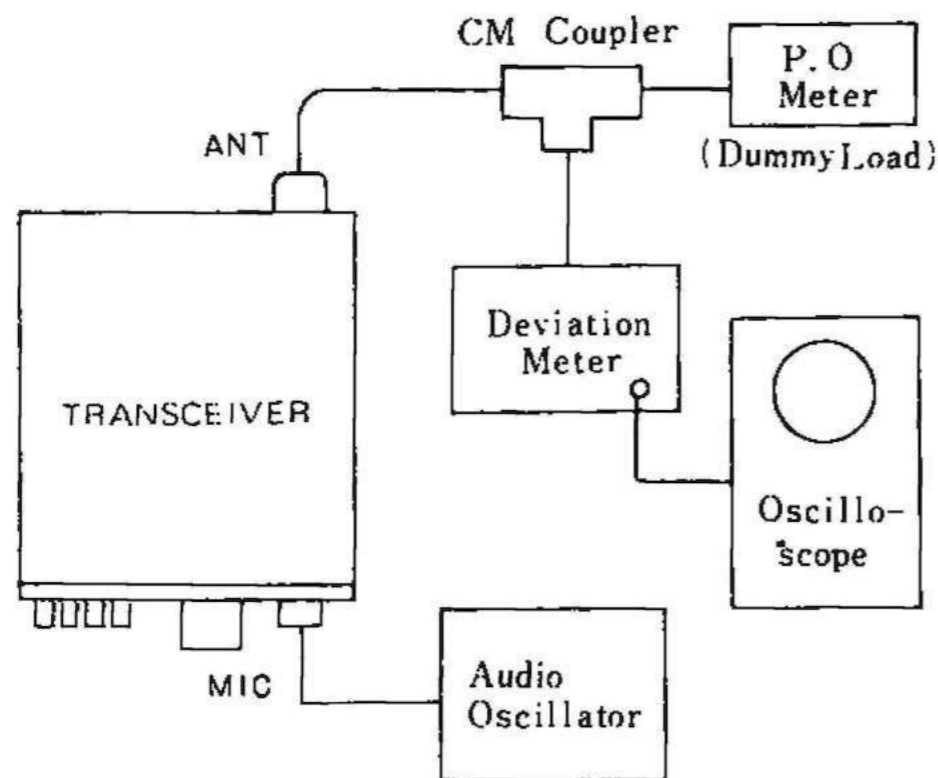

Figure 4
(3) Deviation Adjustment
- a) Refer to figure 4, and set up the transceiver and test equipment as shown.